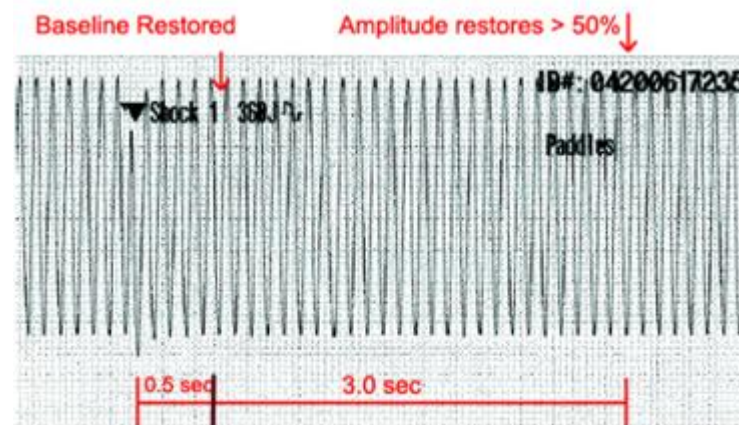
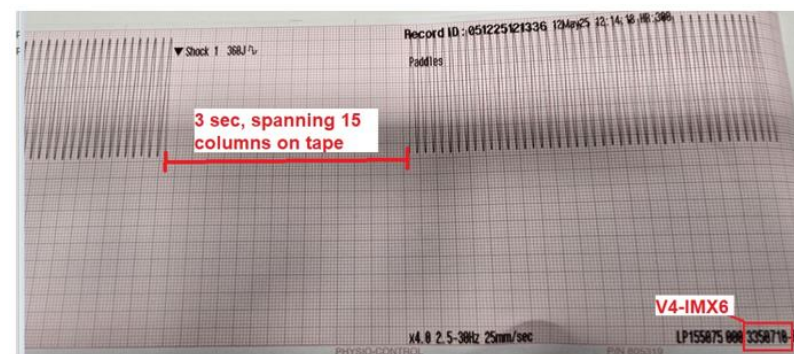

Figure 1.51a--Standard paddles ECG restore test printout
Figure 1.51b—Standard Paddles ECG Restore test V4-IMX6 printout
6. Verify the Shock # marker and Energy Delivered event marker are recorded on the Paddles printout. (See Figure 1.51a for all models except **V4-IMX6**. See Figure 1.51b for **V4-IMX6** models.)
7. Verify the signal baseline on the Paddles printout restores to zero offset within 0.5 seconds of transfer. (See Figure 1.51a for all models. **V4-IMX6** is excluded from this step.)